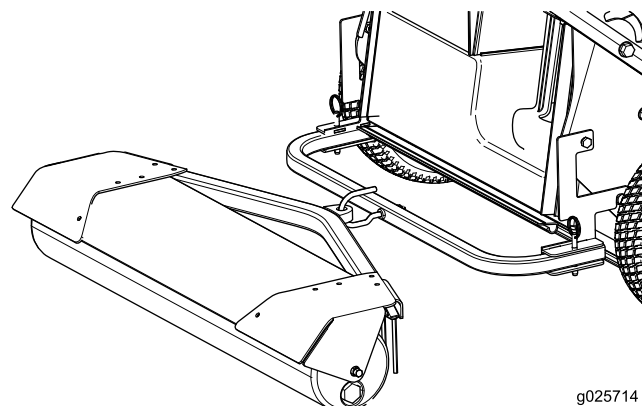

Figure 4
7. Attach the lawn striper trailer to the hook (Figure 4).